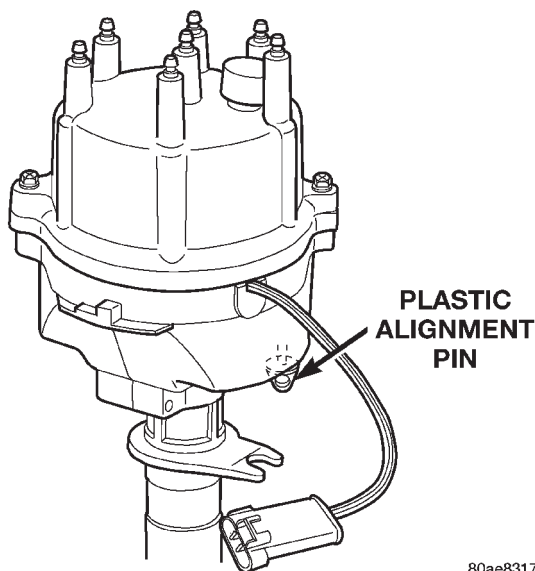
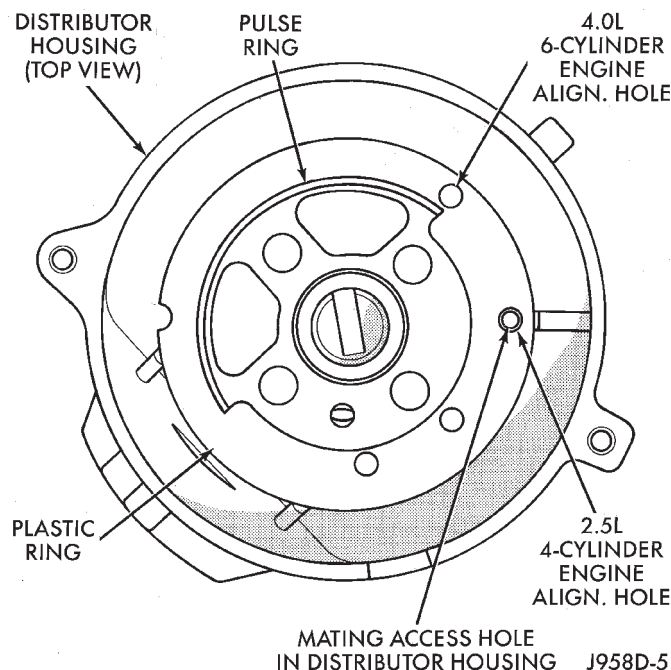

Fig. 30 Plastic Alignment Pin
Fig. 35 Pin Alignment Holes
Factory replacement distributors are equipped with a plastic alignment pin already installed. The pin is located in an access hole on the bottom of the distributor housing (Fig. 30). It is used to temporarily lock the rotor to the cylinder number 1 position during installation. The pin must be removed after installing the distributor.
(3) Factory replacement distributors are equipped with a plastic alignment pin already installed (Fig. 30). This pin is used to temporarily hold rotor to cylinder number 1 firing position during distributor installation. If pin is in place, proceed to Step 8. If not, proceed to next step.
(4) If original distributor is to be reinstalled, such as during engine overhaul, the plastic pin will not be available. A 3/16 inch drift pin punch tool may be substituted for plastic pin.
(5) Remove camshaft position sensor from distributor housing. Lift straight up.
(6) Four different alignment holes are provided on plastic ring (Fig. 35). **Note that 2.5L and 4.0L engines have different alignment holes (Fig. 35).**
(7) Rotate distributor shaft and install pin punch tool through proper alignment hole in plastic ring (Fig. 35) and into mating access hole in distributor housing. This will prevent distributor shaft and rotor from rotating.